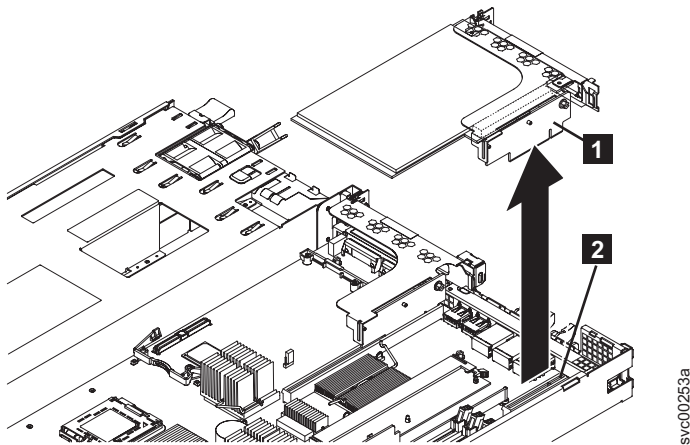

Figure 169. Removing the Fibre Channel riser-card assembly for the SAN Volume Controller 2145-CG8 or 2145-CF8
10. After removing the back-rail retaining screws for the adapter assembly, grasp the riser-card assembly at either end and pull up and out of the slot 1 riser-card connector, as shown in Figure 169. Once the riser card clears the connector, gently twist the card assembly to separate the assembly from the node.